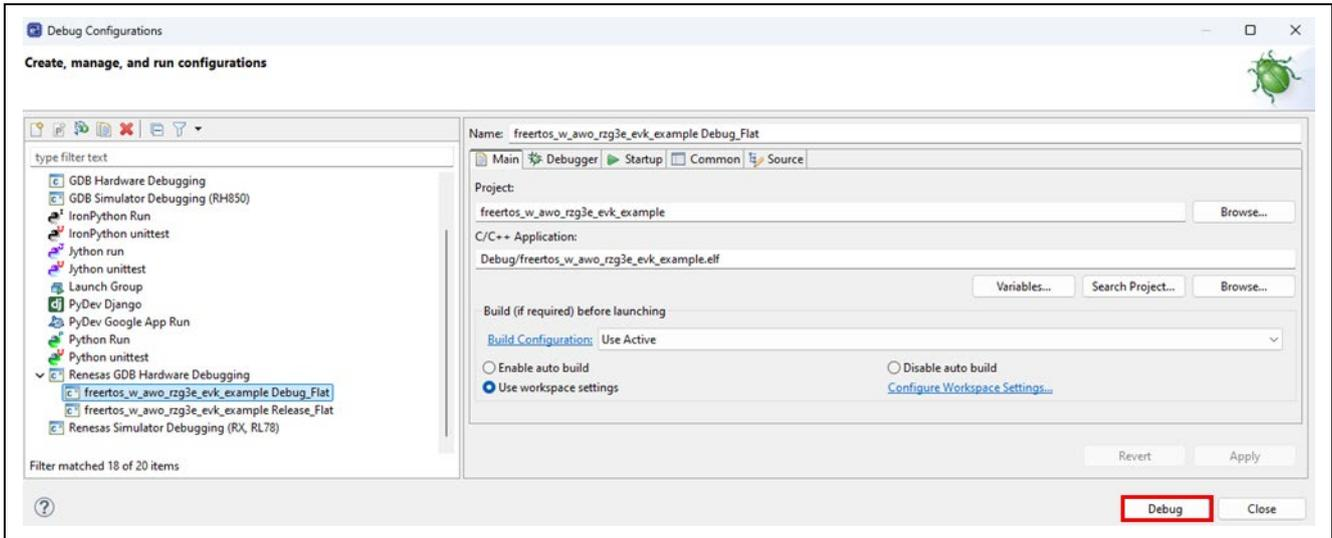

Figure 3-9. Debug Perspective Launch (1)
- When **Debug Perspective** is opened, Program Counter (PC) should be located as shown in Figure 3-9. Then, continue the program to push the button shown in Figure 3-9.